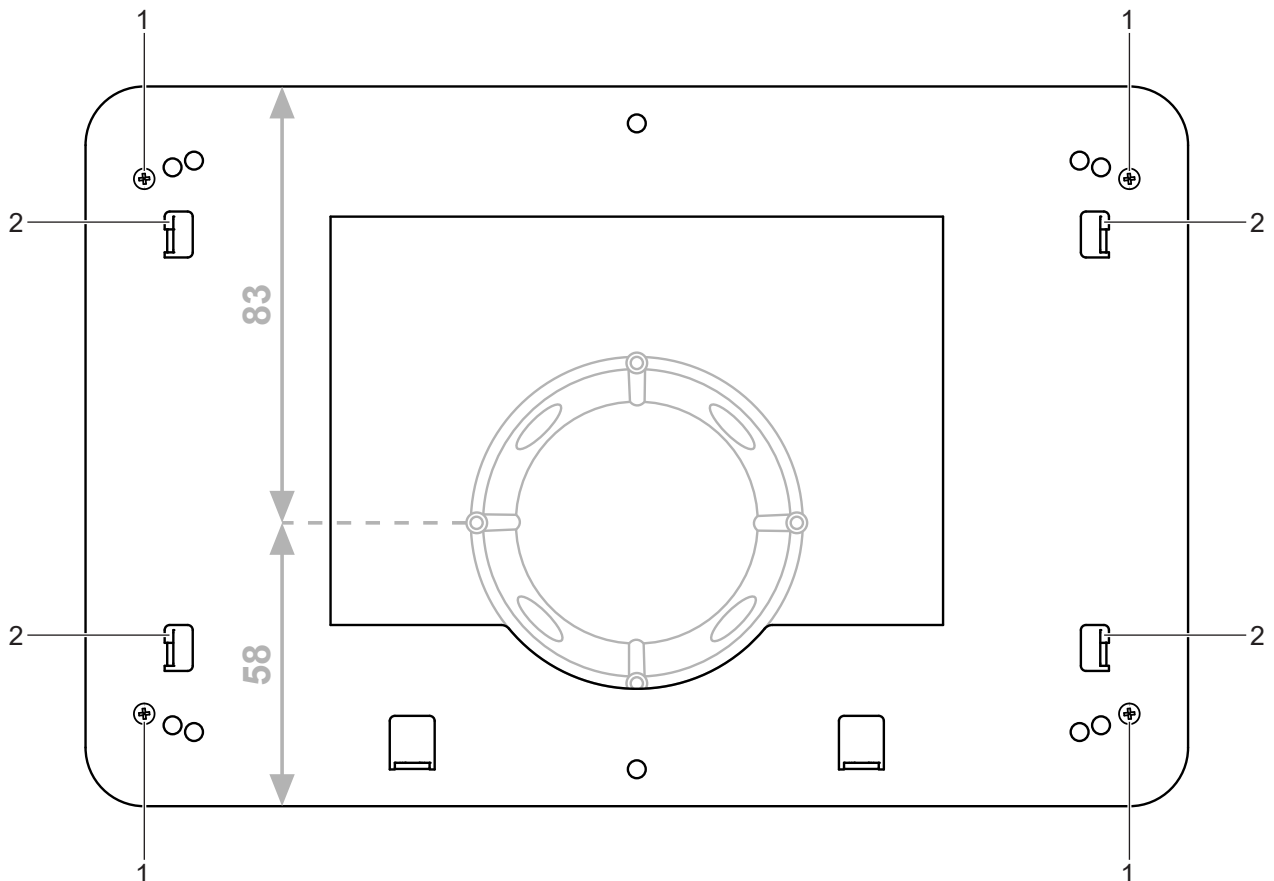
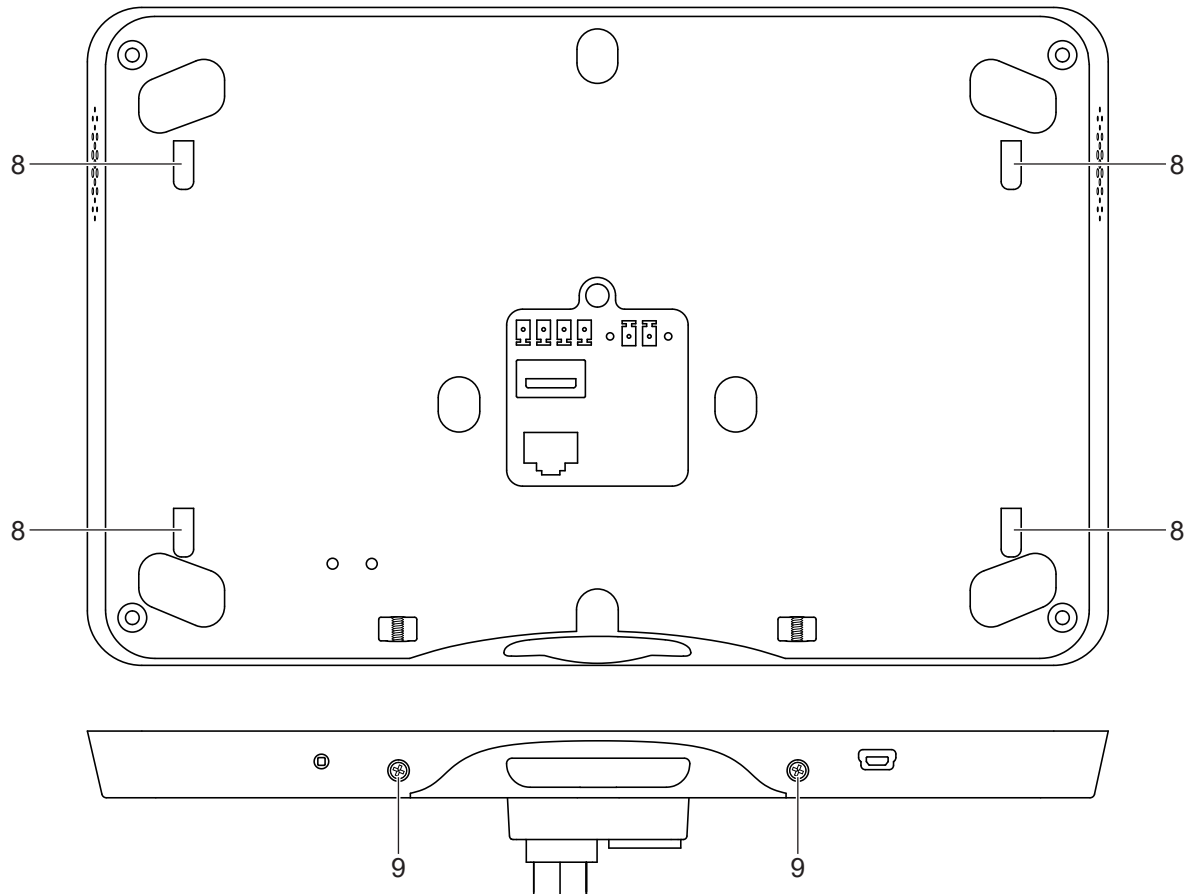

Fig. 2: Mounting the adapter
Fig. 4: Mounting of Smart Control
- Mount the adapter on the installation box with a total of four locking screws (1). (fig. 2)
- Place the openings for wall mounting (8) on the Smart Control on the fixing hooks (2) on the adapter. (fig. 2 and fig. 4)
- Fasten the Smart Control to the adapter on the underside with a total of two locking screws (9). (fig. 4)